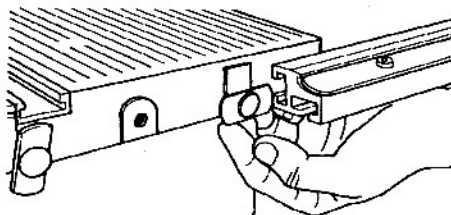

Fig. A-35
41. Hold a rail (it doesn't matter which one—they are exactly alike) parallel with the front edge of the table. Starting with the locking plate on the right front edge of the table, insert the locking plate in the T-channel of the rail, as demonstrated in Fig. A-35.